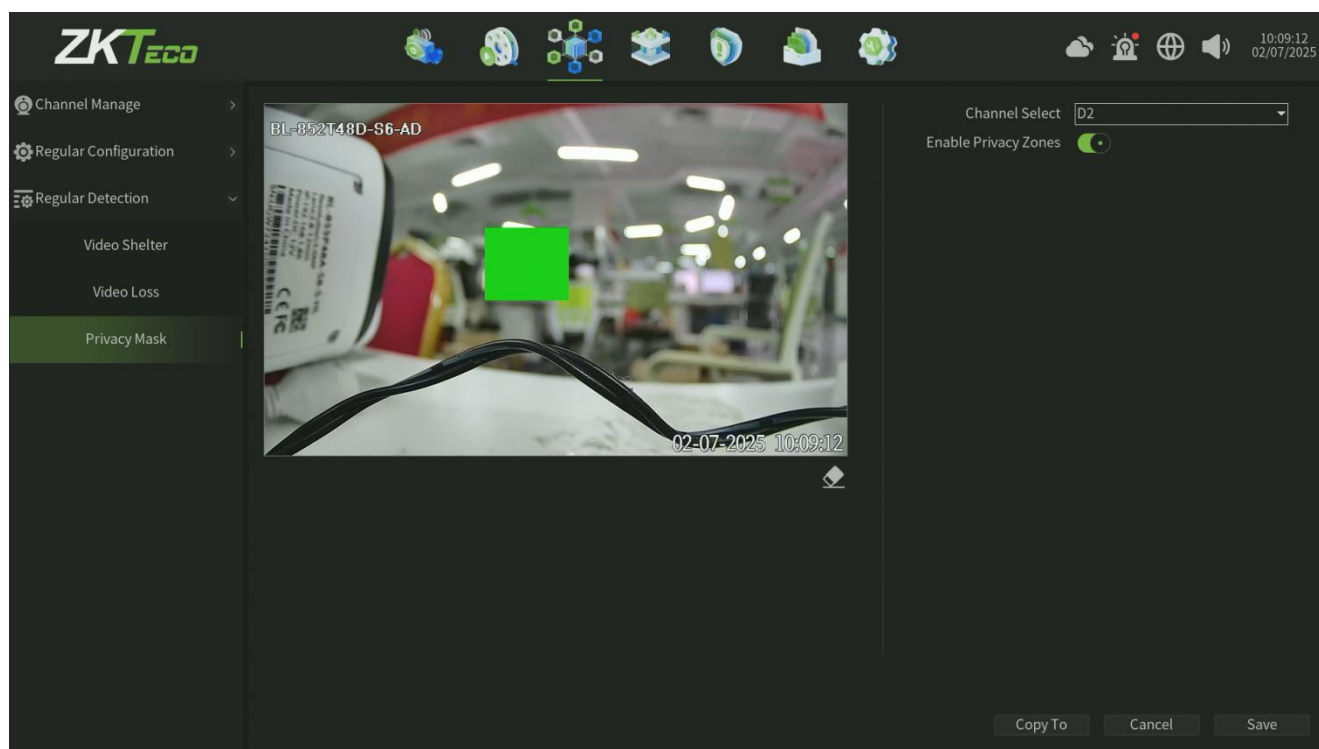

Figure 6.18 Privacy Mask
1. Enter the **Privacy Mask** interface, as shown in figure 6.18.